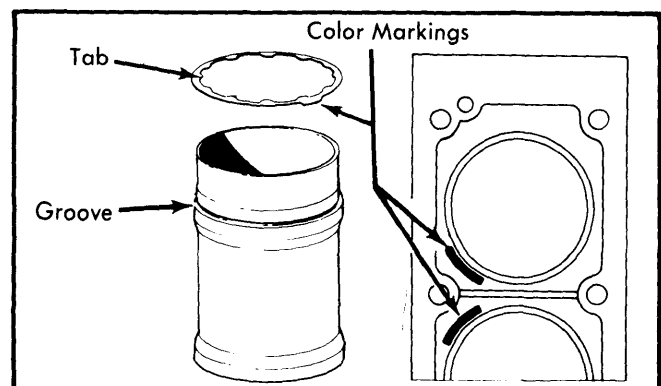

Fig. 9 Positioning Shims on Liners
5) Install shims with color marking up and positioned as shown in Fig. 9. Inner tabs on shims should be in liner groove.